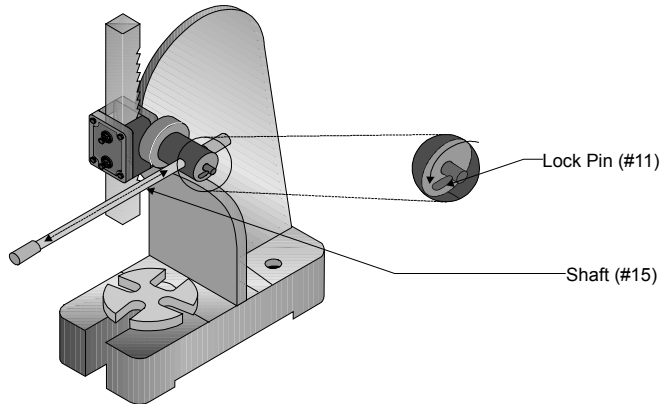

Figure 6 -- Adjusting the Shaft
2. Loosen the LOCK PIN (#11) by turning it as shown in Figure 6. This will allow you to adjust the length of the SHAFT (#15).